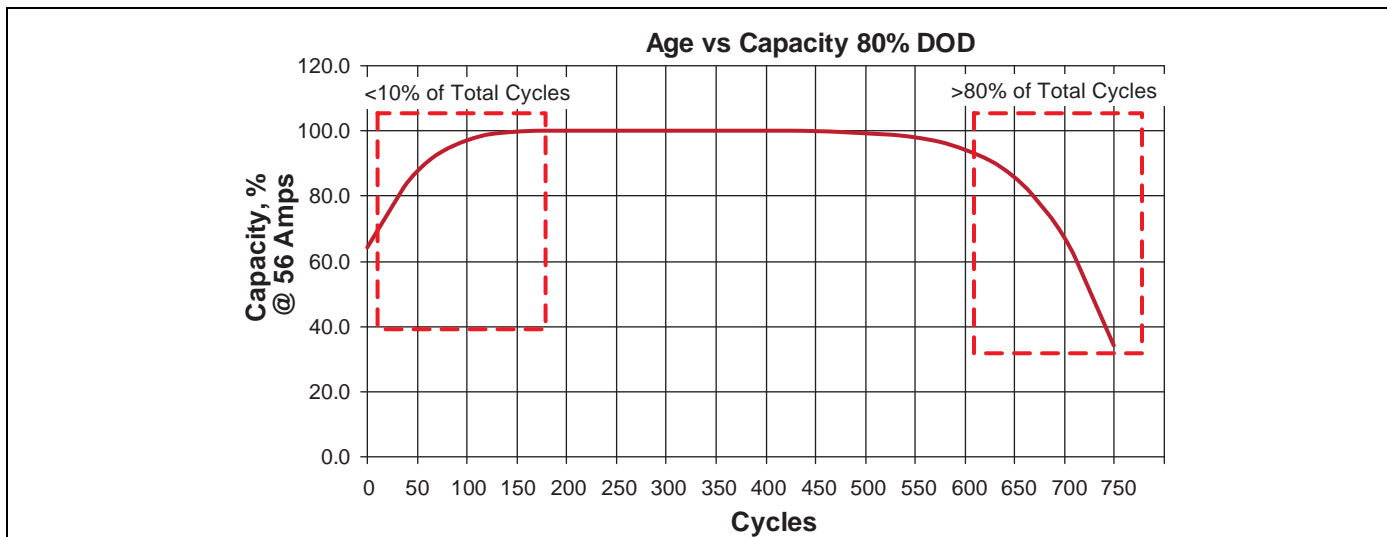
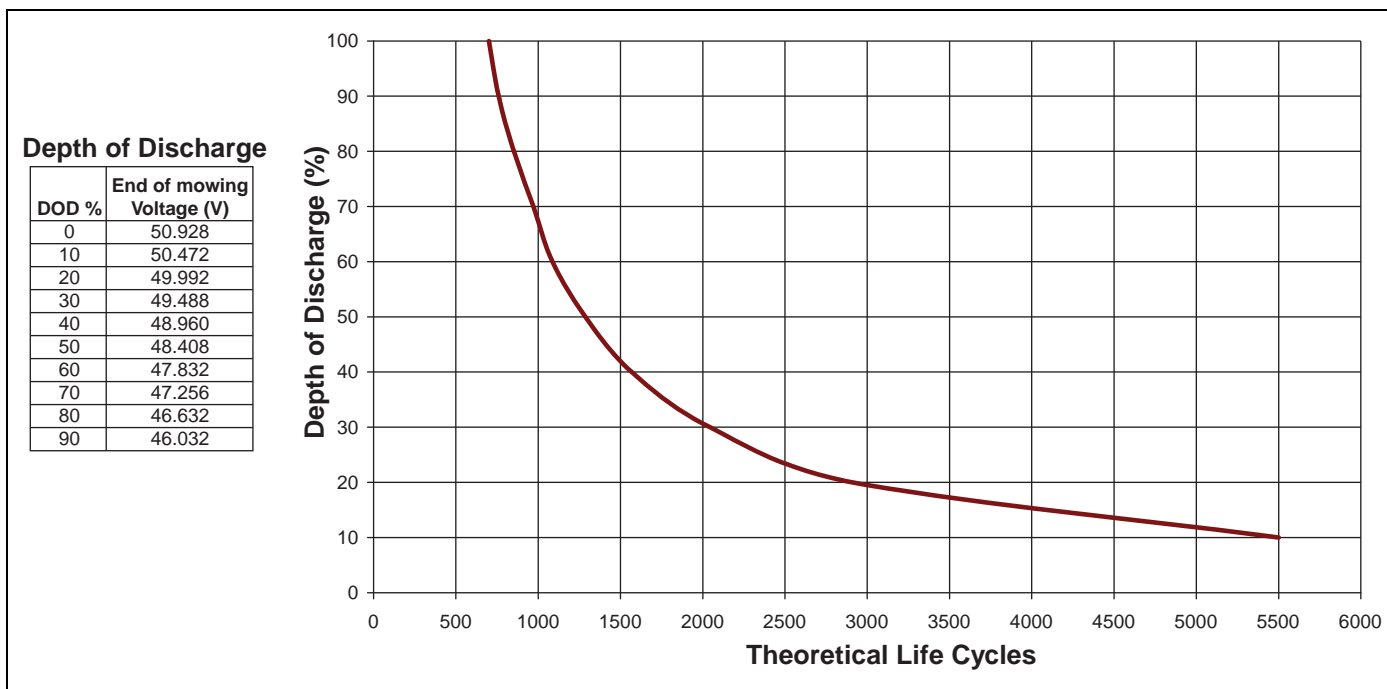

Figure 5A
Figure 5B
A new battery set must go through a conditioning process before it will develop its maximum capacity. Conditioning may take up to 50 charge/discharge cycles until full capacity and run time are achieved. A battery has a maximum life, therefore good maintenance is designed to maximize the **available** life and reduce the factors that can reduce the life of the battery. Refer to **Figure 5A** for battery age vs. capacity chart.
Chart shown in **Figure 5A** refers to an 80% Depth of Discharge (DOD) with theoretical life of 750 cycles.
The charts shown in **Figure 5A** and **Figure 5B** are provided for reference only and is to be used as a guideline for estimating capacity of a battery pack. Actual battery life may be shorter or longer, depending on the actual DOD experienced by the battery set, and maintenance battery set receives.
**Figure 5B.** These values are based on a standard 78° F (25.5° C) battery temperature. Using the DOD refer to the right side chart in **Figure 5B** to determine theoretical life cycles.